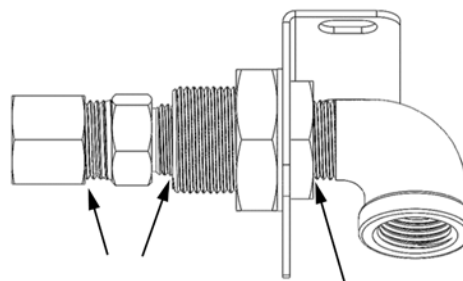

Fig. 1. Built-in manifold leak test points. For LP and natural gas models.
4. With a brush or spray bottle, apply the solution to all connections from the supply line or LP cylinder, up to and including the manifold pipe assembly. **See figs. 1—4.**